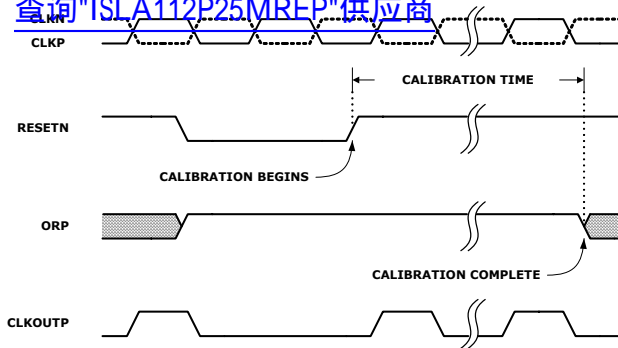

FIGURE 22. CALIBRATION TIMING
The calibration sequence is initiated on the rising edge of RESETN, as shown in Figure 22. The over-range output (OR) is set high once RESETN is pulled low, and remains in that state until calibration is complete. The OR output returns to normal operation at that time, so it is important that the analog input be within the converter's full-scale range to observe the transition. If the input is in an over-range condition, the OR pin will stay high, and it will not be possible to detect the end of the calibration cycle.